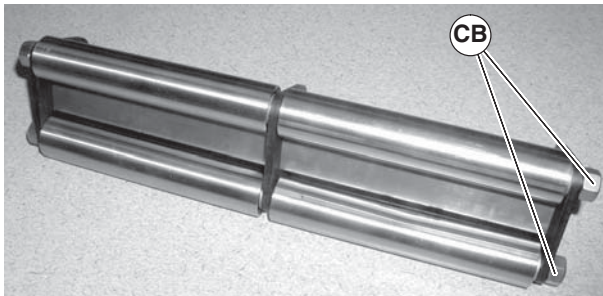

Figure 57
- Remove hex nuts (Figure 57, item CB).